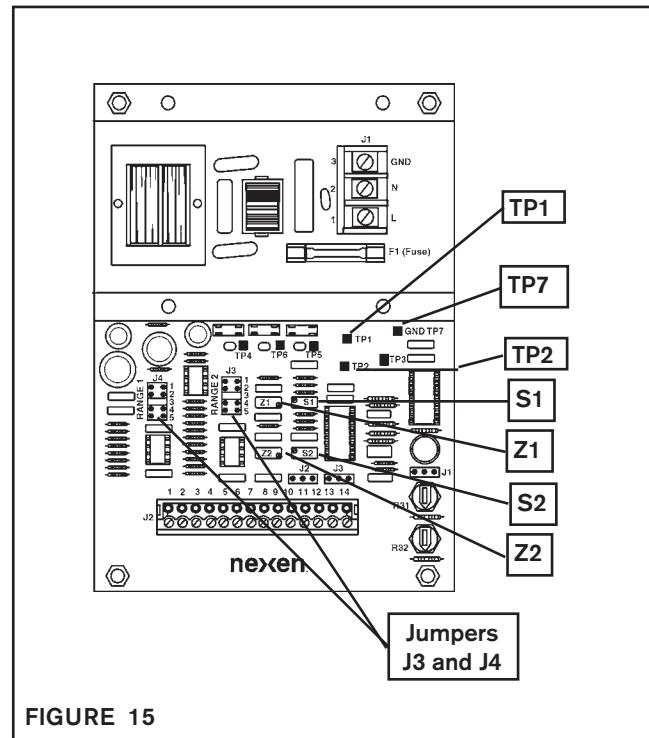

FIGURE 15
3. Rotate both **S1** and **S2** counterclockwise to minimum (See Figure 15).
4. Connect a voltmeter to **TP7 (COM)** and **TP1** (See Figure 15).
5. Rotate **Z1** to read 0.00VDC at **TP1** (See Figure 15).
6. Connect a voltmeter to **TP7 (COM)** and **TP2** (See Figure 15).
7. Rotate **Z2** to read 0.00VDC at **TP2** (See Figure 15).